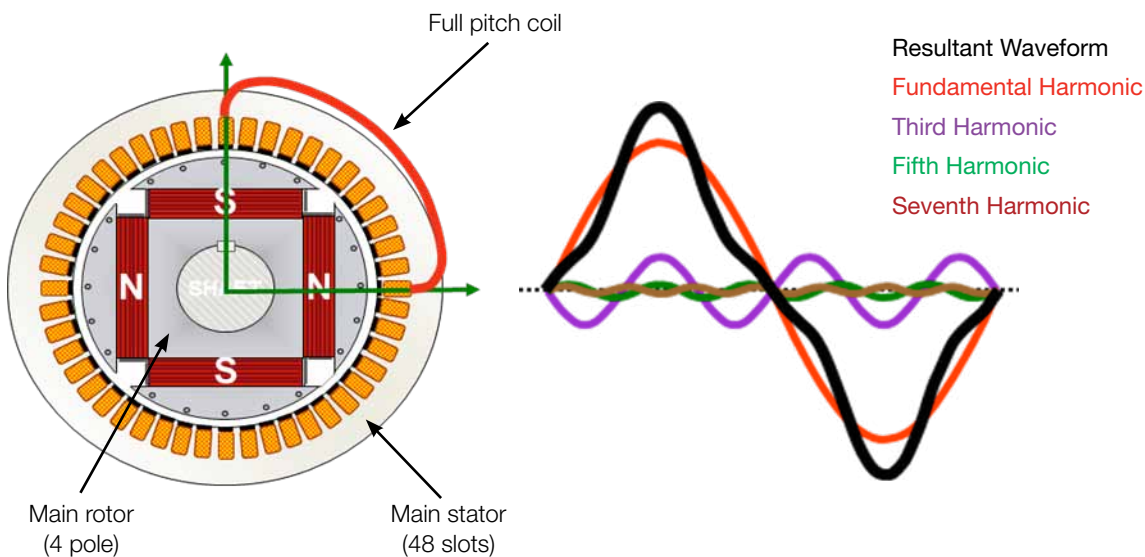

Figure 1: Full pitch winding machine with resultant waveform of the output phase voltage
Full pitch (Figure 1) = pole centre (S) to pole centre (N), for 48 slots stator (example)